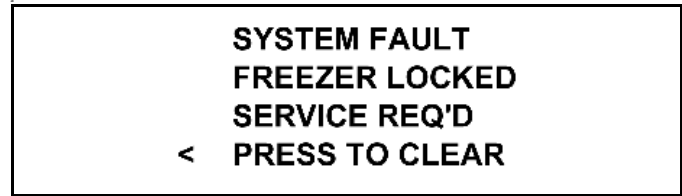

Figure 2-19
2. There has been a thermistor failure (freezing cylinder, hopper, or glycol) during the heat treatment process. (See Figure 2-19.)